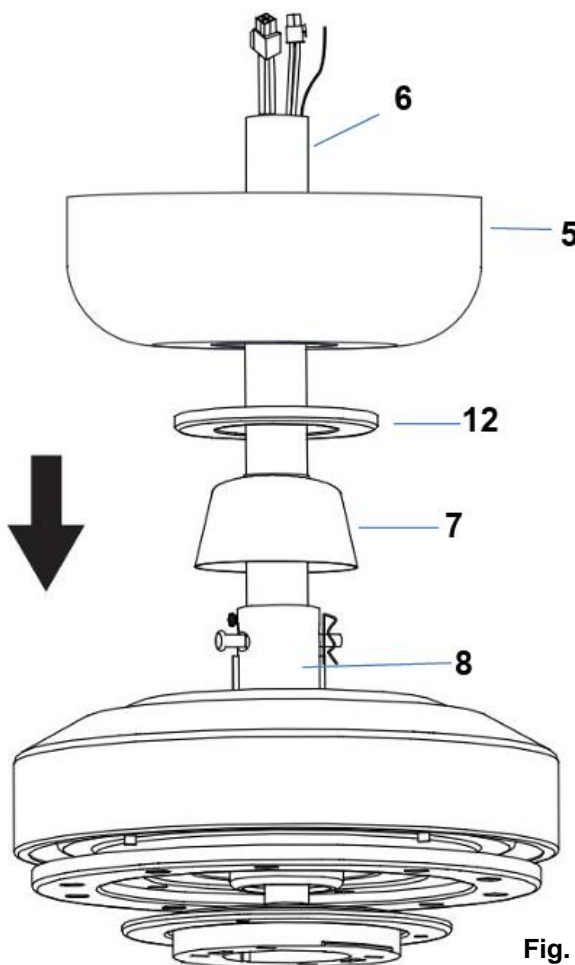
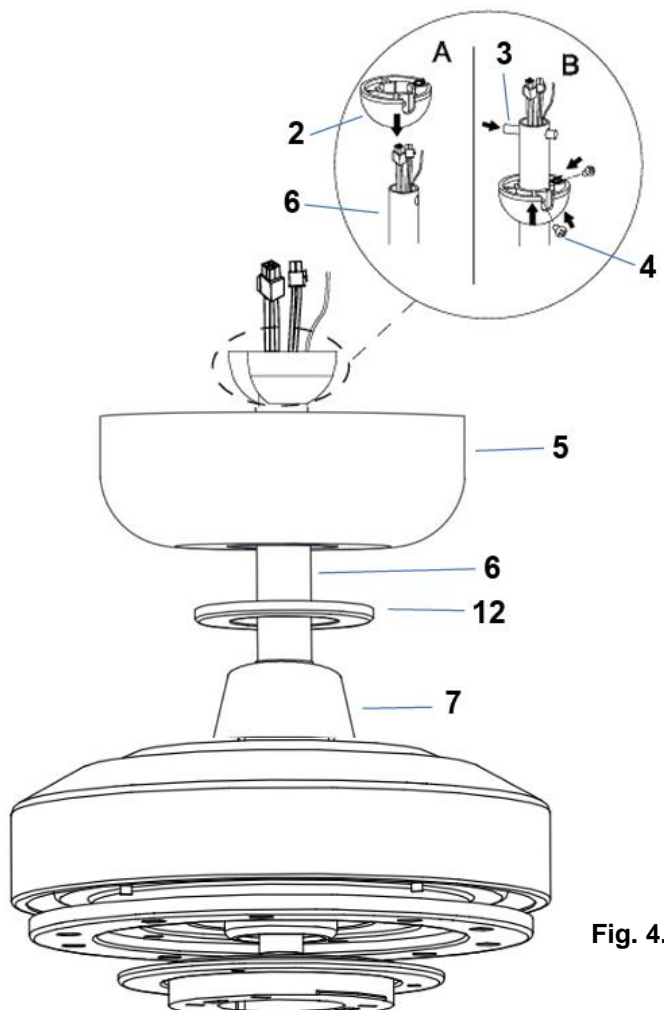

Fig. 4.5
Fig. 4.6
6. Insert the decorative cover (7) onto the down rod (6) to cover the down rod coupling housing (8). (Fig. 4.5)
7. Insert the canopy cover (12) & canopy (5) over the down rod (6) and install the ball joint (2) and dowel pin (3) back onto the down rod (6) and secure by tightening the set screws (4). (Fig. 4.5& Fig.4.6)